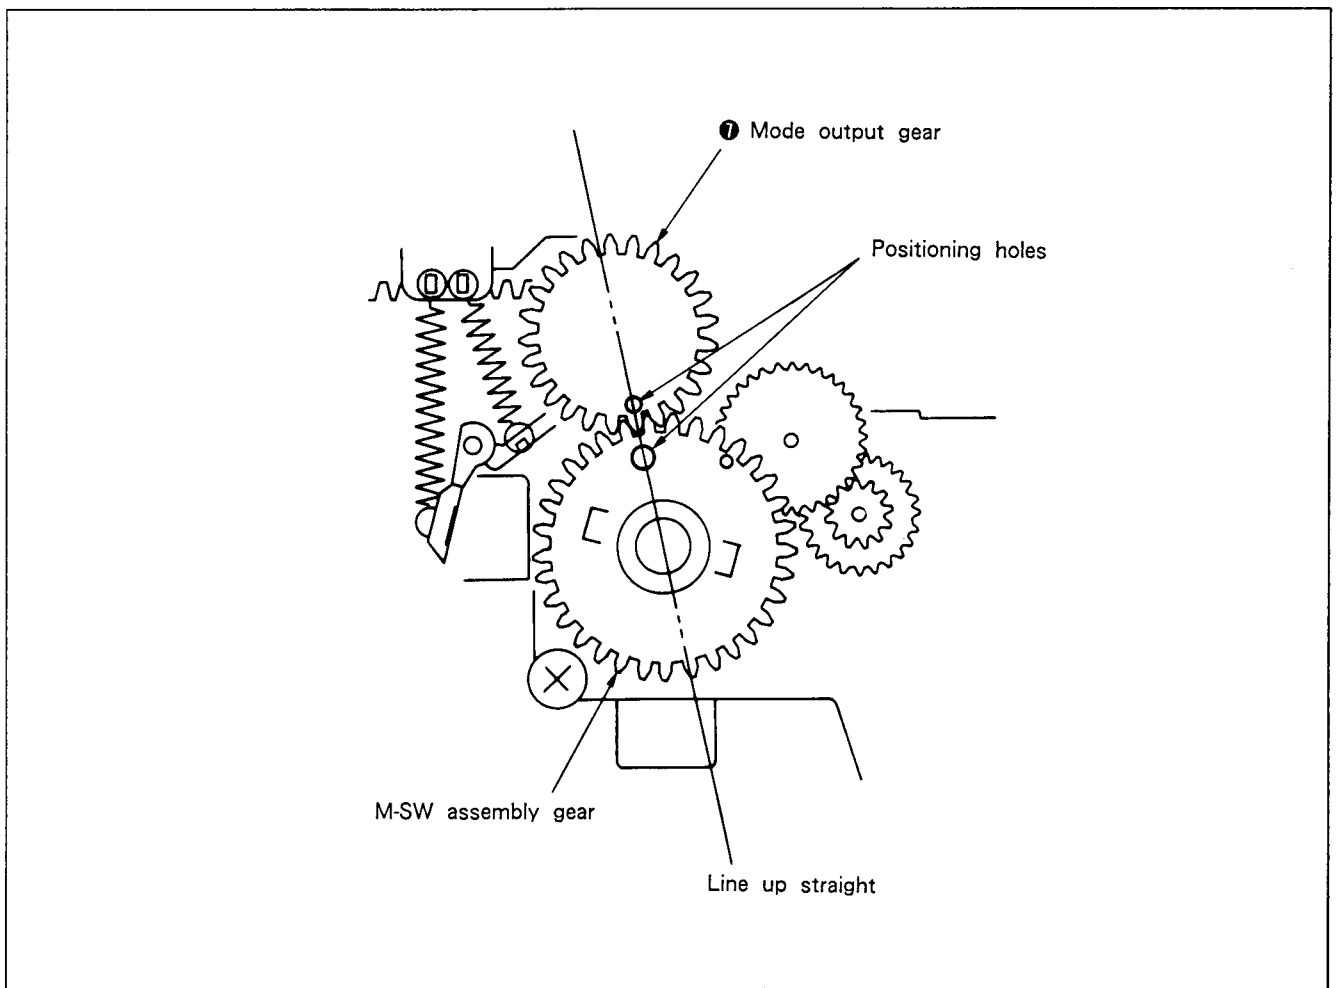

Fig. 7-39.
- 1) Solder the control motor ⑩.
- 3) Mount the control motor cover assembly ⑫, and tighten with the three screws ⑪.
- 4) Connect the connector ⑩.
- 5) Mount RECOG switch ⑨ and tighten with the screw ⑧.
- 6) Solder terminal of RECOG switch ⑨.
- 8) Confirm that M slider ⑰ is moved fully in the direction of arrow ⑯.
- 9) Put a half drop of oil on the shaft ⑱.
- 10) Mount the mode output gear ⑦ so that the positioning holes are lined up. (See Fig. 7-39.)
- 11) Fix stopper washer ⑥.
- 13) Mount B release arm assembly ⑤ and hook spring ④.
- 15) Mount the LD-1 board ③.
- 16) Mount drive gear B assembly ② and fix stopper washer ①.